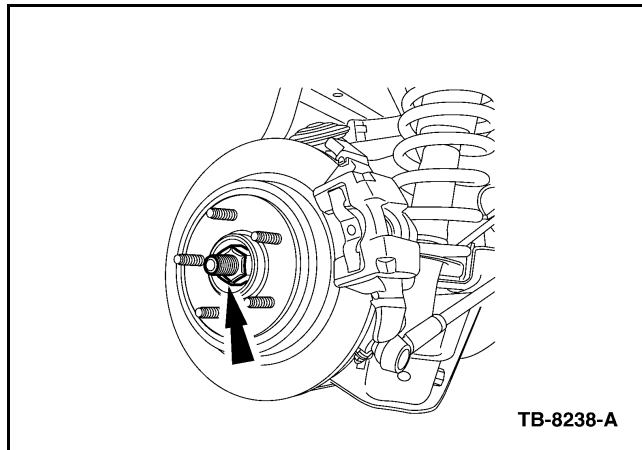

Figure 1 - Article 05-25-8
1. Remove the axle-to-wheel hub retainer nut and washer (Figure 1). Discard the nut. When reinstalling at end of procedure, tighten to 203 lb-ft (275 N•m).